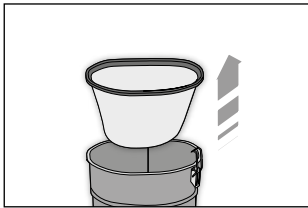

Fig. 9
- Remove the filter (M) (FIG. 9).
- Replace the filter, the cover and fix it using the small levers (G).